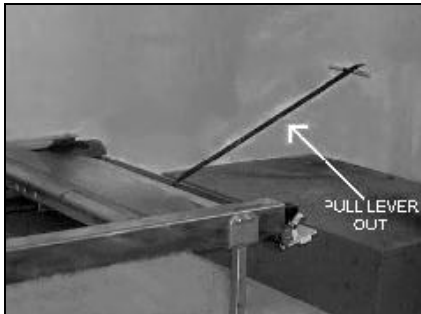

FIGURE 2-8: PULL LEVER OUTWARD
- 7) Refer to **Figure 2-8**. Pull manual deploy lever OUT to deploy ramp.